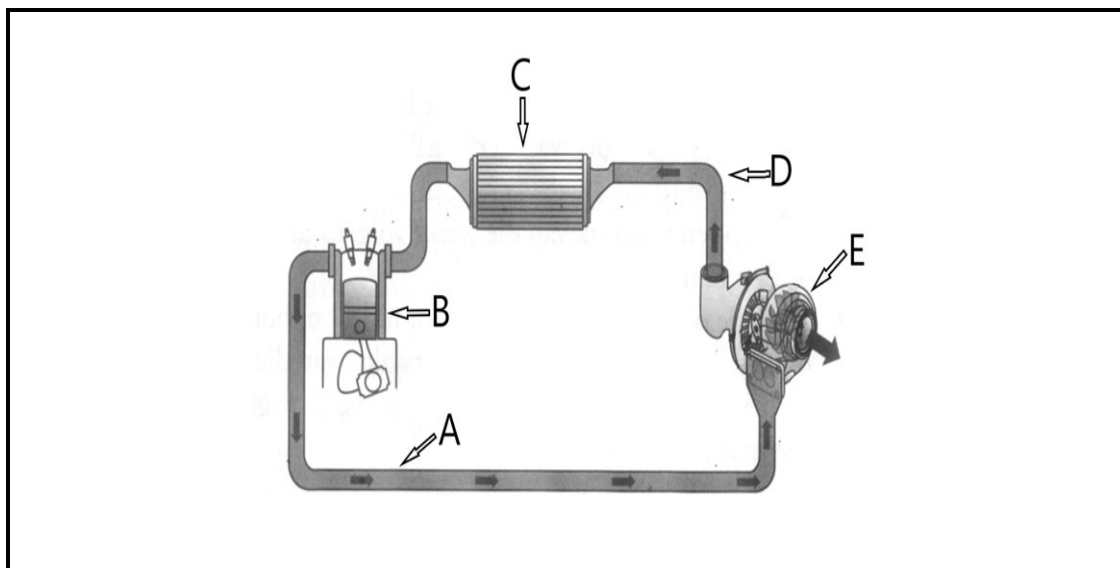

FIGURE 6.2
- 6.2 FIGURE 6.2 below shows an engine diagram. Study the diagram and answer the questions that follow.
- 6.2.1 Label parts **A–E** in FIGURE 6.2. (5)